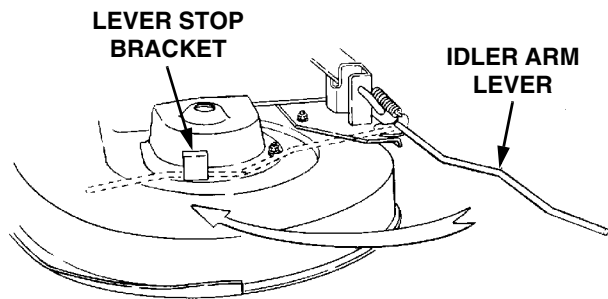

Figure 53
15. While holding the belt in position, rotate and engage the deck idler arm lever into its stop bracket to tension the PTO belt (See Figure 53).